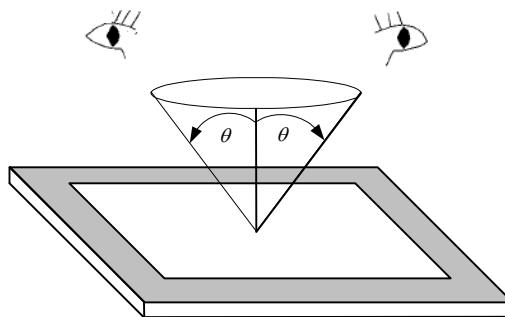

Fig. 12.1
- The viewing zone is defined with angle  $\theta$  shown in Fig. 12.1. The inspection should be performed within  $45^\circ$  when display is shut down. The inspection should be performed within  $5^\circ$  when display is power on.